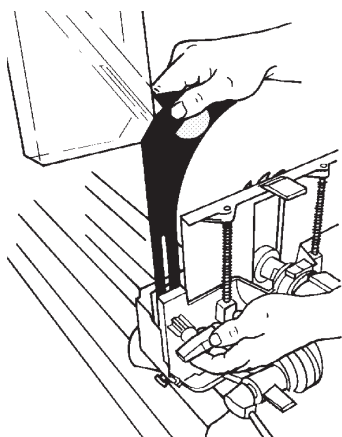

Figure C-66
82. Loosen the guard lock knob (210) and insert the upper saw guard's riving knife (199) between the guard (213) and the lock plate (208), as demonstrated in Figure C-66.